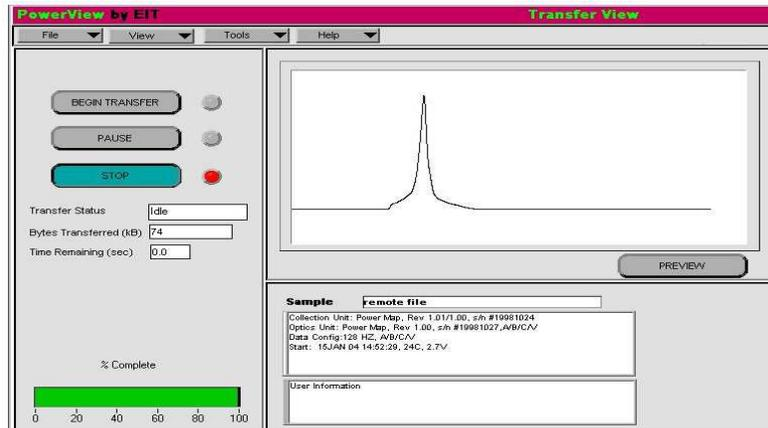

Figure 7. Transfer View Screen.
2. From the VIEW pull-down list, click on TRANSFER. The Transfer View screen will appear as shown in Figure 7.